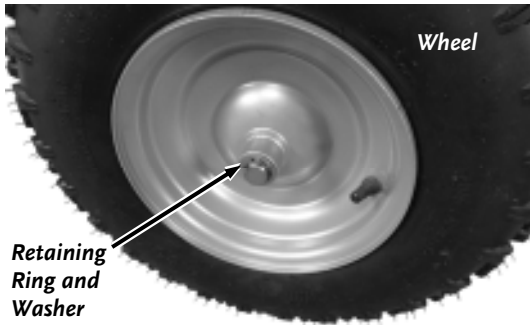

Figure 45
2. Remove the Retaining Ring and Washer of both Wheels with a Flat Head Screwdriver and remove the Wheels (**Figure 45**).